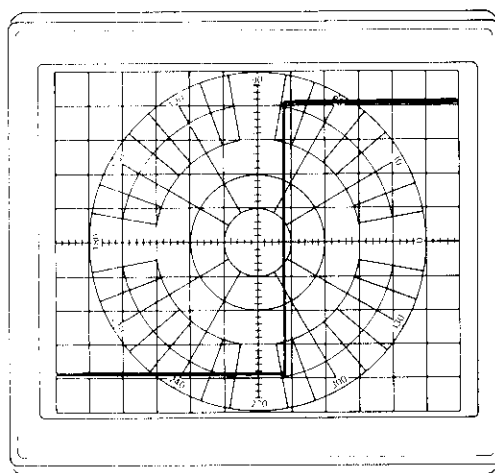

Figure A2-21. CRT Trace of Phase Transition
- c. Offset the phase trace with the Channel 1 REF OFFSET pushbuttons to place a phase transition to the right of midscreen as shown in Figure A2-21.